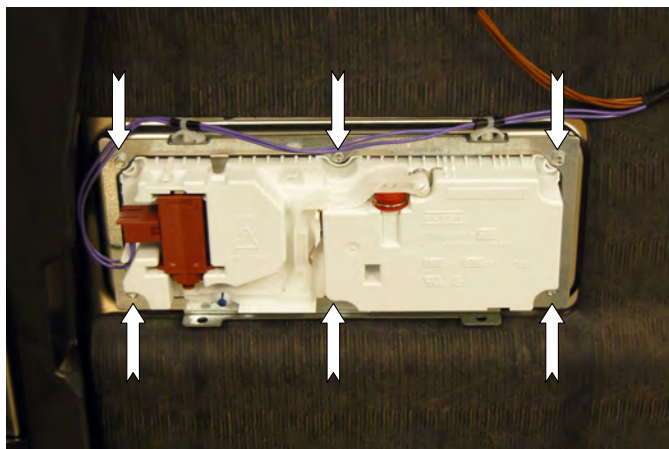

Figure 1
3. Remove - 6 - ¼" hex head screws securing the dispenser to the door, see figure 1.